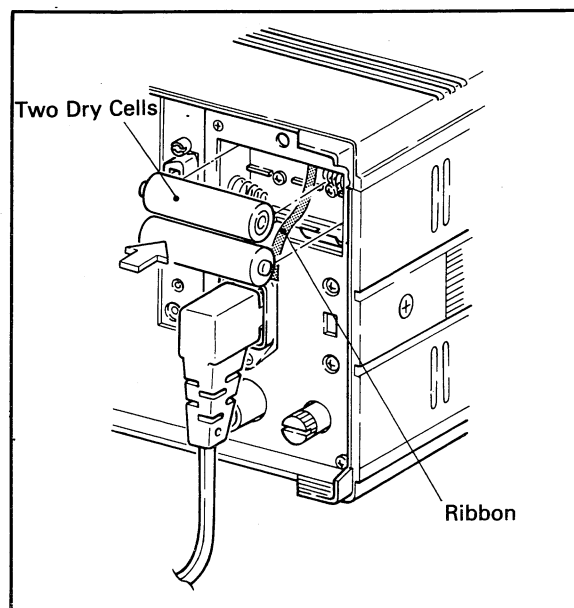

Figure 2-3.
3) In the middle of the internal battery case, a red ribbon is mounted. As shown in Figure 2-3, mount two furnished dry cells (SUM-3D) on top of the ribbon.